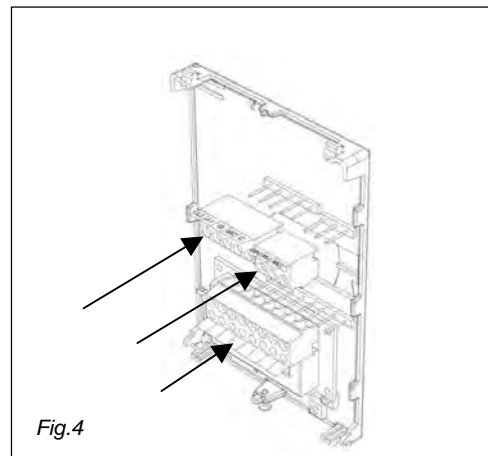

Fig.4
- 1- Swing open the humidistat PCB to the left by pressing the PCB locking tabs. **(Fig. 4)**
- 7- Insert screws in mounting holes on each side of the base. **(Fig. 4)**